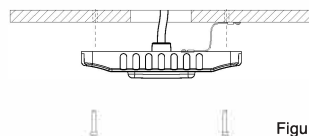

Figure 3
3. Attach the other side of the safety rope to the ceiling, then connect the wiring of the fixture to main supply, according to both local and national electrical codes. Make sure there is good protection on the wire joint. Then, attach and secure the fixture on the ceiling using the included screws. (Figure 3).